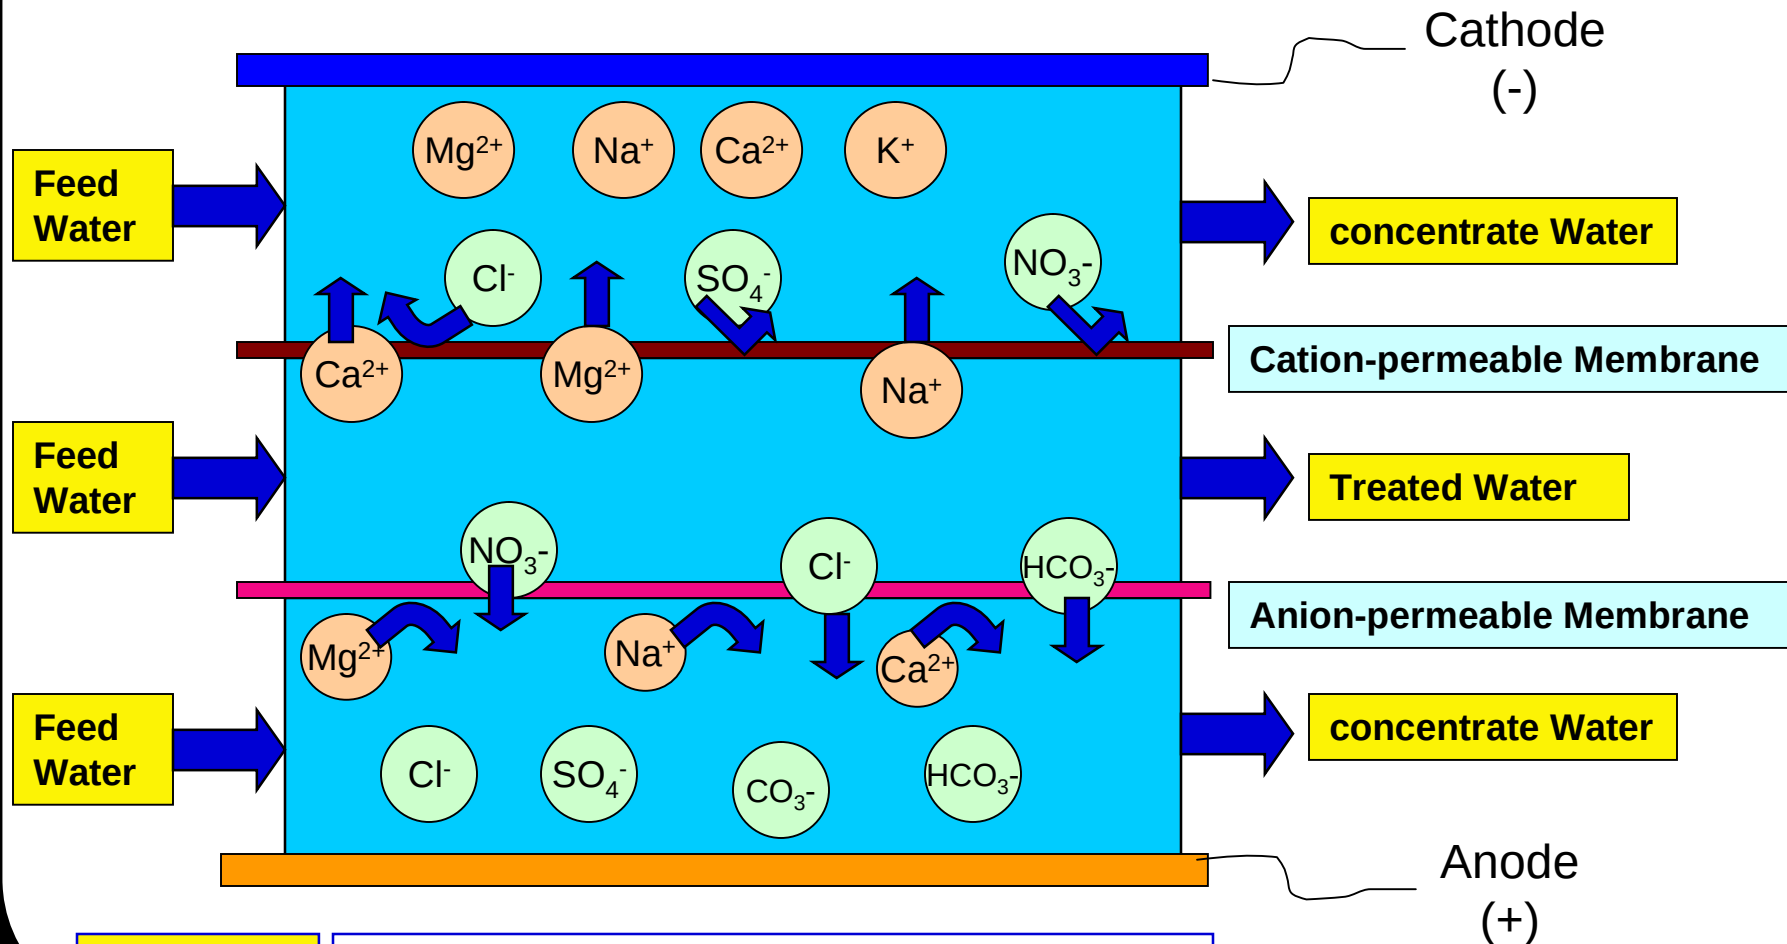

Fig. 5.6 Schematic of Electrodialysis process
- Figure 5.6 illustrates the configuration of a one cell stack electrodialysis unit.
- When a Direct Current (DC) power supply is connected to the electrodes, a direct current passes through water between the electrodes.